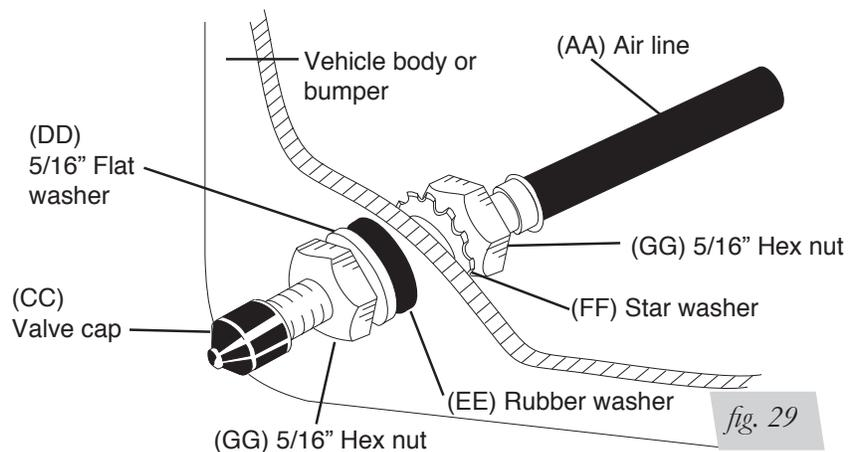

fig. 29
4. Place a 5/16" nut and star washer on the air valve. Leave enough of the inflation valve in front of the nut to extend through the hole and have room for the rubber washer, flat washer, and 5/16" nut and cap. There should be enough valve exposed after installation—approximately 1/2"— to easily apply a pressure gauge or an air chuck (Fig. 29).